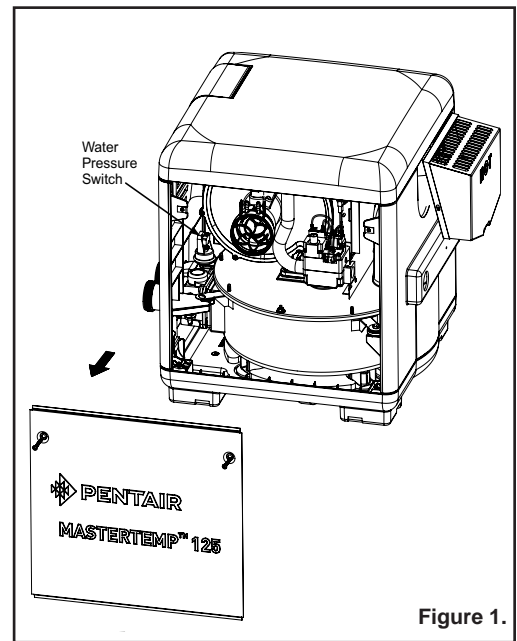
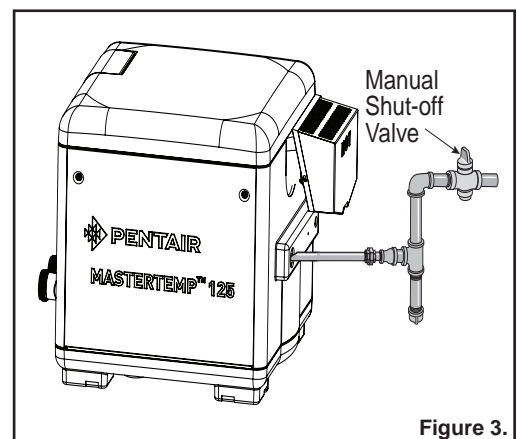

Figure 1.
Figure 3.
3. Turn off all electric power to the appliance. **Turn OFF the Outside Manual Shut-Off Valve (Figure 3).**
5. Remove the access door panels by unfastening the two (2) screws located on each door, then lift up and out from the bottom of the panel to remove. If necessary, the screws may be used as handles, see Figure 1.
6. Wait five (5) minutes to clear out any gas. If you then smell gas, **STOP!** Follow “B” in the “Before Start-up” instructions (page 1). If you don’t smell gas, go to the next step.
7. **Turn ON the outside Manual Shut-Off Valve (Figure 3).**
- **Turn OFF the outside Manual Shut-Off Valve (Figure 3).**
3. Remove the access door panels, see Figure 1.